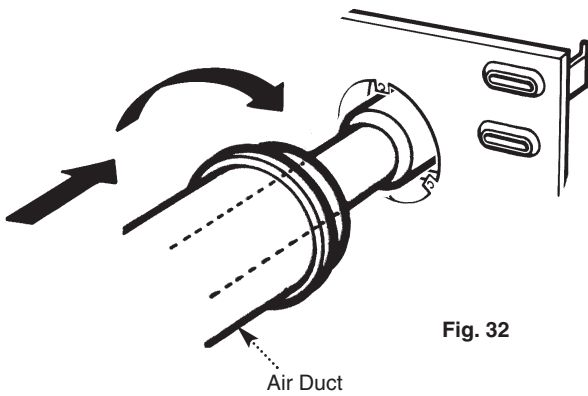

Fig. 32
4. Engage the bayonet slots of the air duct over the location lugs on the back plate opening and press and turn clockwise to secure the air duct to the back plate (Fig. 32).